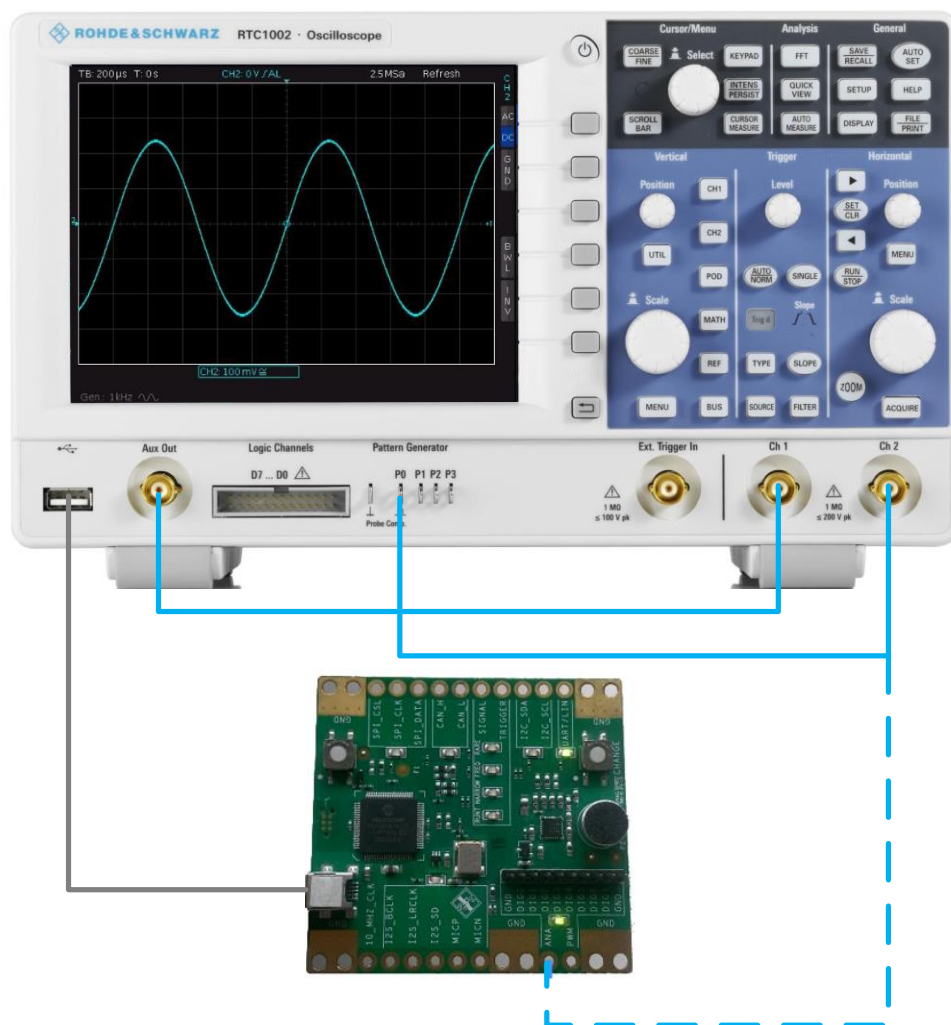

Fig.3-1: Test setup for manual measurements.
The setup in Fig.3-1 is provided as a general overview and will be worked through step-by-step in the exercise.
► As shown in Fig.3-1, connect channel 2 to the output *S0*. Always remember to connect the probe ground wire.
► Connect the training board from Appendix 55A.1 to the USB port as shown in Fig.3-1.